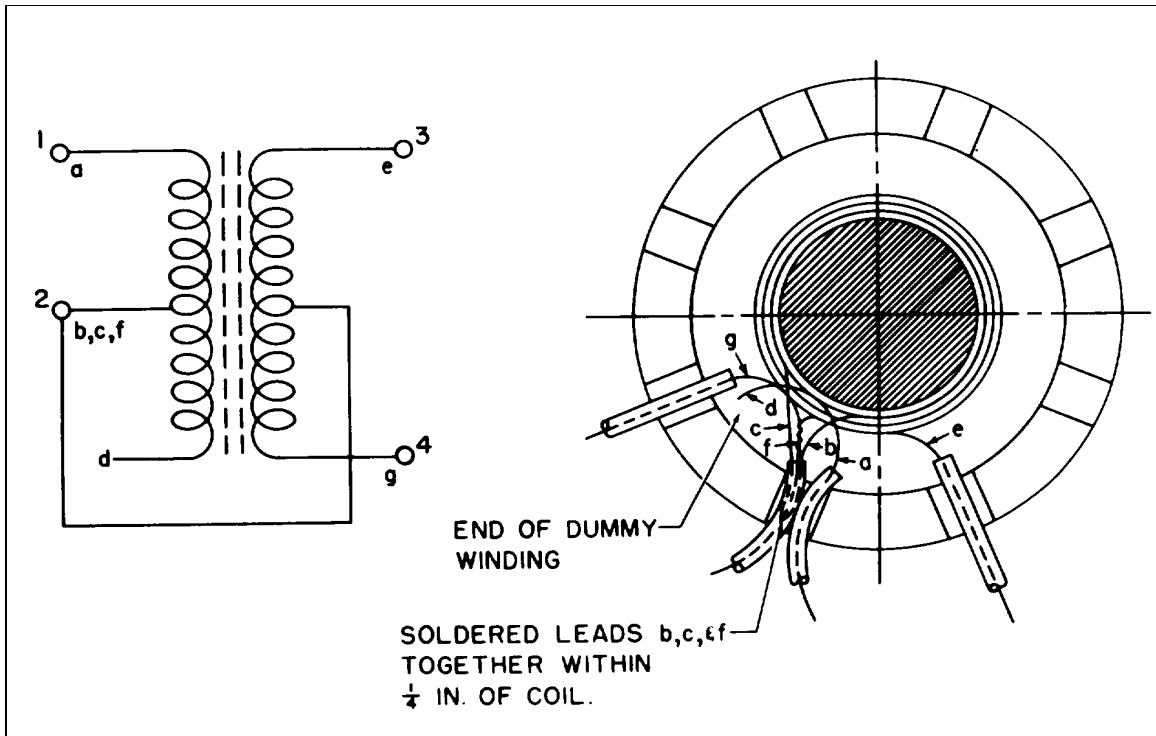

Figure 2-2. Construction of Transformer T-201.
a. TRANSFORMER. (See figure 2-2.) The 70-ohm primary winding of input transformer T-201 accepts signals from an unbalanced, 70-ohm, coaxial transmission line from either an antenna or a preceding antenna coupler. The secondary of T-201 is wound for a nominal impedance of 1,000 ohms and is balanced with respect to chassis ground by means of a center tap. Output transformer T-202 is identical with T-201 but with its electrical functions reversed. A dummy winding on the primary of r-201 (the secondary of T-202) compensates for the unbalanced capacitances between the primary and secondary windings. (See Table 7-6, Winding Data.) The dummy winding is connected to ground at the center tap of the balanced winding. Balancing the distributed capacitances of the transformer in this manner prevents introduction of unbalanced signals into the secondary winding and transmission line. Reference to figure 2-2 should clarify the construction and theory of operation of transformer T-201.